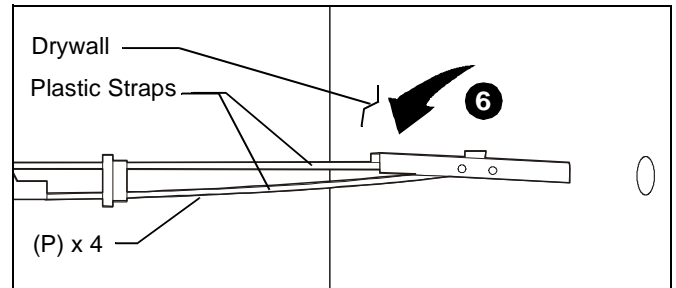

Figure 6
6. Hold metal channel on anchor (P) flat alongside plastic straps and slide channel through hole. (See Figure 6)